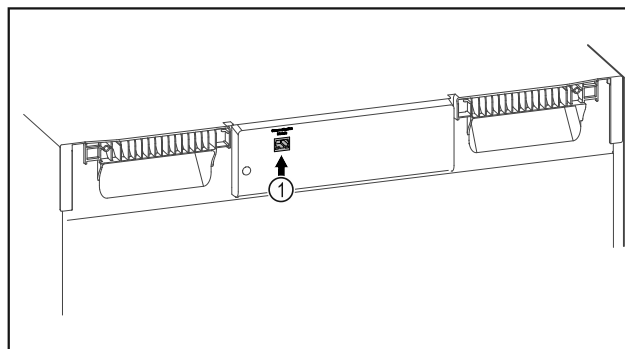

Fig. 142
- ☐ SmartModule Fig. 142 (1) is in use.